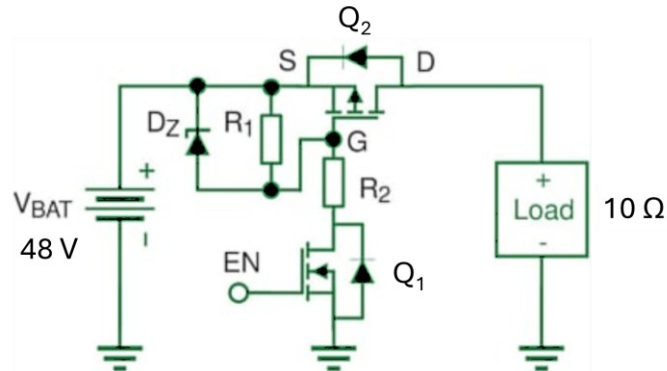

Figure 1. pmos switch between the battery and the load
- a) The pmos switch in Figure 1 is located between a purely resistive load and a battery. The resistance of the load is $10\ \Omega$ and the battery voltage is 48 V .